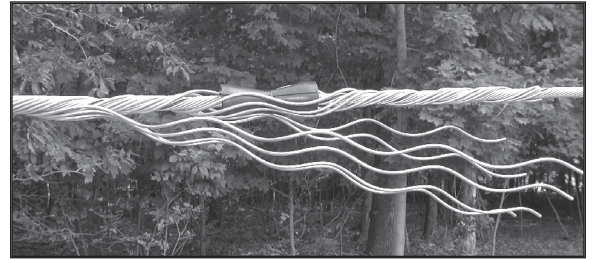
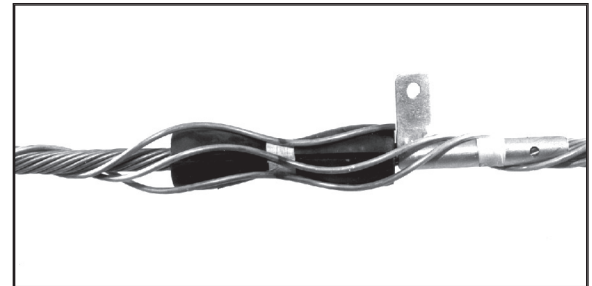

FIGURE 18: CONTINUE TO APPLY REMAINING RODS
FIGURE 19: PLACE RODS AROUND CTT FOR OPGW
4.06 Apply the remaining rods in the same manner (Figure 18). For OPGW applications, carefully place the rods around the CTT without deforming the rods (Figure 19). Spaces or Gaps between rods will appear over the insert due to the increased diameter. Work to maintain equal spacing between rods over the insert.
PLP TIP: All remaining outer rods can be partially applied over the SRRs to cover the mid-portion between inserts with some room for manipulation before covering the insert areas. Continue to wrap rods over the insert as explained earlier. Figure 18 illustrates how rods are partially wrapped on the mid-portion and pause before the insert (moving left to right). Continuing from this point, rods are wrapped over the insert one by one and back onto the SRRs as the outer rods approach their extreme ends.
4.11 Beyond the inserts, rods can be wrapped in place individually as shown in Figure 18 or simultaneously (Figure 20). Use one or both hands to encircle the free rod ends at one end of the application. Twist all rod ends into position simultaneously. Repeat process at other end. Verify that inserts remained in proper position.